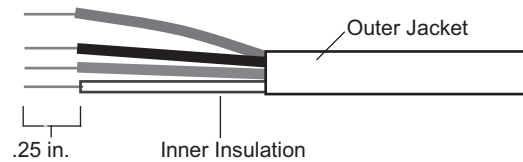

Fig. 17 — Rnet Cable Wire
2. Strip about 1/4 in. of the inner insulation from each wire (see Fig. 17).